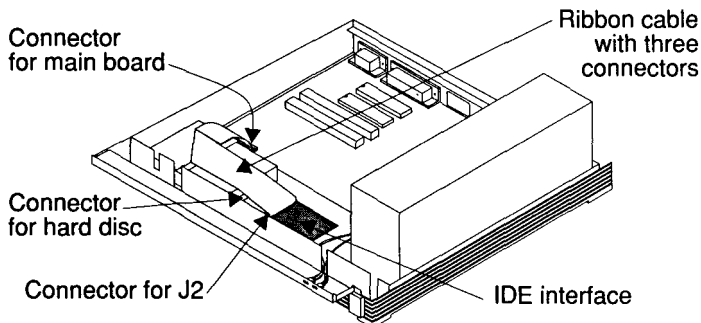

Figure 2 The IDE interface and new hard disc cable (steps 3, 4 and 5)
You may find *Figure 2* on page 8 helps you see what to do.
- Ensure the pins are lined up with the connector, and gently push the one onto the other.Again, you may find *Figure 2* on page 8 helpful.